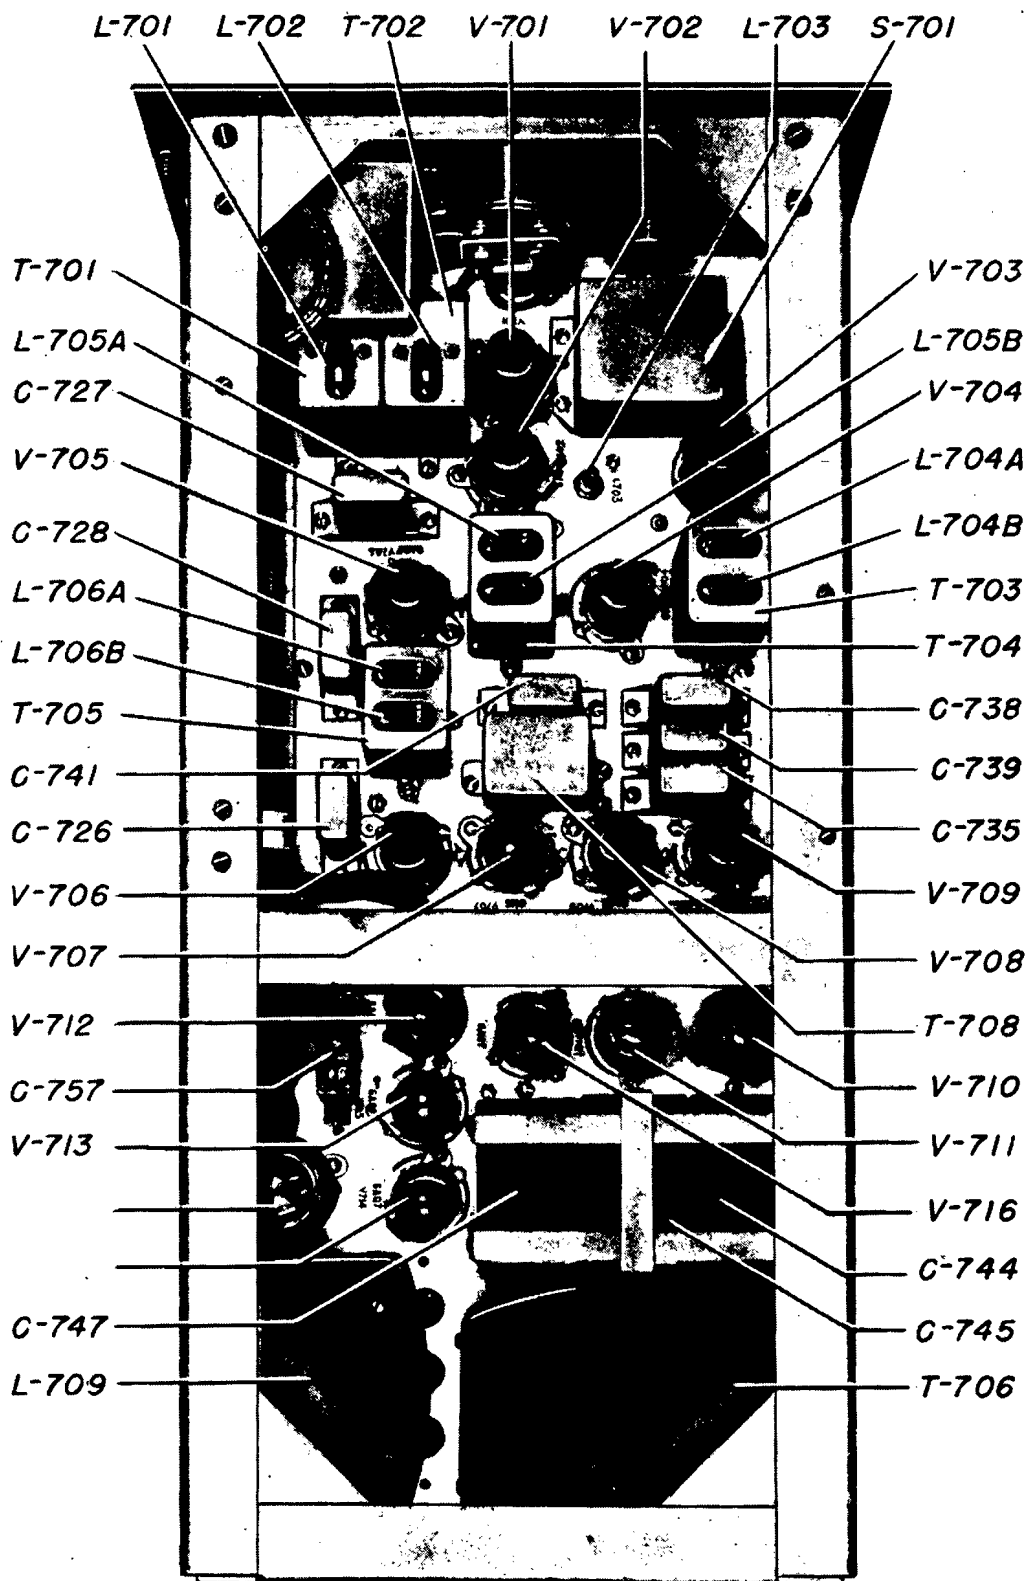

Figure 7-105. Console Receiver, Alignment Controls
(1) Connect a one-inch lead between pin 4 of X-706 and ground. Ground the rear ledge of the chassis with a one-half inch wide, tinned copper braid. Do not use any other ground on either the receiver or signal generator. The receiver should be standing on end during alignment.
(2) Adjust the BANDPASS switch to SHARP, and set the BAL, the I.F. TUNE to 0, and REJ 1 and REJ 2 to 0 positions. These controls are on the front panel of the Console Receiver.
(3) Connect a signal generator (Navy Model LX (Series) or equivalent) with an output adjustable to 25 megacycles to the input of the receiver. Set it to produce an output at exactly 15 megacycles. Adjust the attenuator so that a reading of .30 ma appears on the JAMMING INDICATOR meter. This meter is on the front panel of the receiver.
(4) Adjust inductors L-706B, L-706A, L-705B, L-705A, L-704B, L-704A, and L-703, in the order named, for maximum reading on the meter. See Fig. 7-105. The attenuator control on the signal generator should be adjusted as required during the alignment procedure so that the meter deflection does not actually increase. When the meter reading increases, readjust the attenuator on the signal generator so that the output on the meter is reduced to its original value. Work within the range of 0.15 and 0.30 ma. To go over this level may result in overloading some of the stages and give a false meter reading.
(5) Repeat the adjustment once or twice to make certain that the alignment of the i-f channel is correct and maximum gain is shown on the meter. This indicates that *both* the i-f channels and the circuits are aligned.
(2) Adjust the trimmer in the top of inductor L-702 so that a *minimum* reading is recorded on the JAMMING INDICATOR meter. Inductor L-702 is shown in Fig. 7-105. This adjustment is very critical. Care must be taken to see that the absolute minimum reading is obtained on the meter. The signal generator attenuator should be turned up (decreased) during this operation if the meter reading drops near the zero point. After increasing the signal generator output so that the signal on the meter is in the vicinity of its original value, repeat the adjustment until the trimmer adjustment shows maximum signal attenuation. Replace the REJ 1 control to the 0 position.
(3) Adjust the signal generator to 14.8 megacycles. Turn the REJ 2 control to 100 and the REJ 1 control to 0. Adjust the trimmer in inductor L-701 until the signal is attenuated. Follow the same procedure described for tuning REJ 1, until the trimmer is adjusted for maximum attenuation of the signal on the meter. Return REJ 2 control to 0.